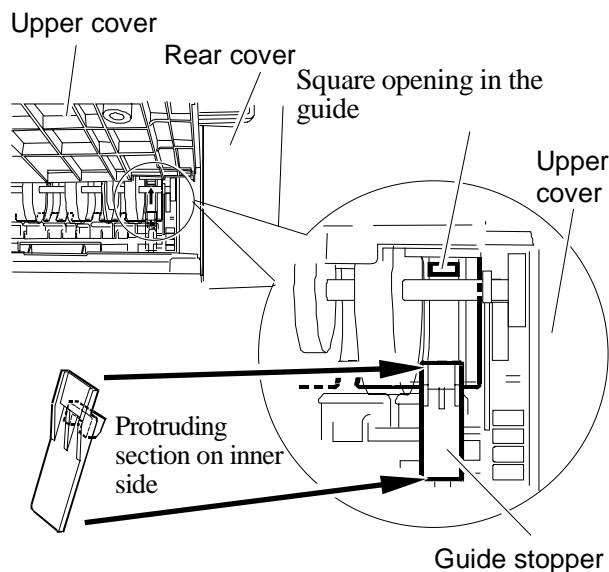

Fig. 8
- Hold the side A of the guide stopper between the fingers, and face the side B toward the square opening on the guide (Fig. 8).